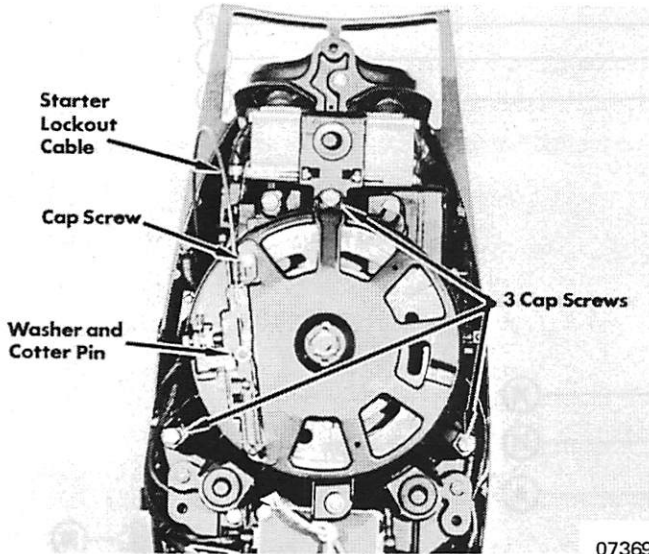

Figure 1. Removing Lockout
- a. Remove cotter pin washer and cap screw from neutral starter lockout cable and remove cable from rewind starter. (Figure 1)
- c. Remove 3 cap screws and nuts from rewind starter and remove rewind starter. (Figure 1)